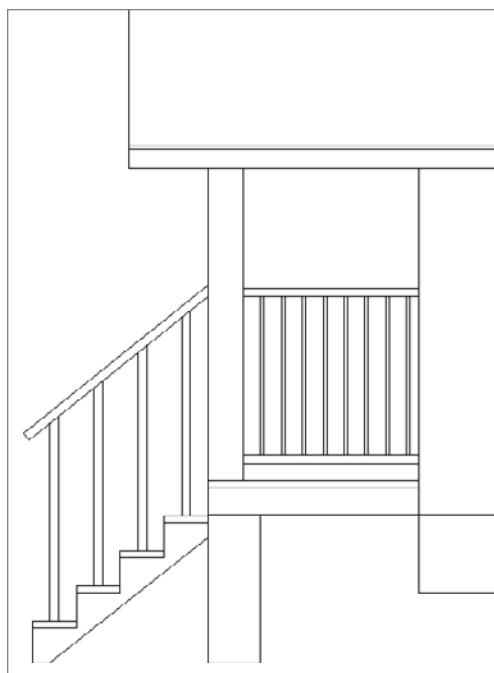

FIGURE 10.34 The back deck after trimming and erasing unneeded lines
5. Zoom into the back deck. Erase any posts that exist past the leftmost exterior wall, and trim the horizontal deck lines back to that wall line, including the line that overlaps the top of the foundation. Your back deck should look like Figure 10.34.